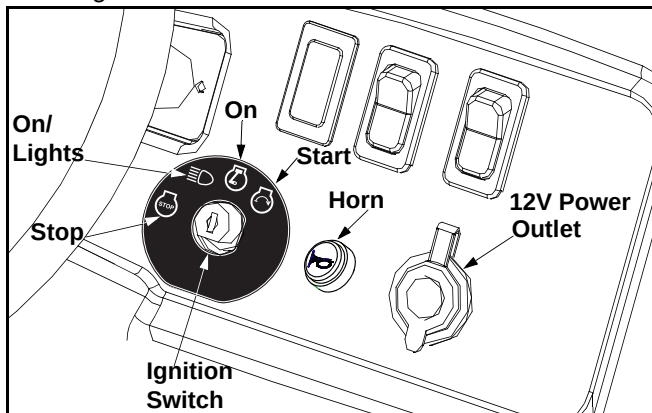

Figure 4
The ignition switch is located on the right side of the dash panel. To start the engine, insert the key into the ignition switch and turn clockwise to the **START** position. Release the key into the **On** position once engine has fired. See Figure 4.
The horn switch is located on the right side of the dash panel. Push button to activate horn. See Figure 4.
The 12V power outlet is located on the right side of the dash panel. It is used for the convenience of plugging in accessories that require a power source with a maximum load of 5 amps at 12 volts. See Figure 4.
- Turn the key one notch counterclockwise into the On/Lights position of the ignition switch. Refer to Figure 4.
- Turn the key either into the On position (to leave the engine running) or the Stop position (to shut the engine off). Refer to Figure 4.